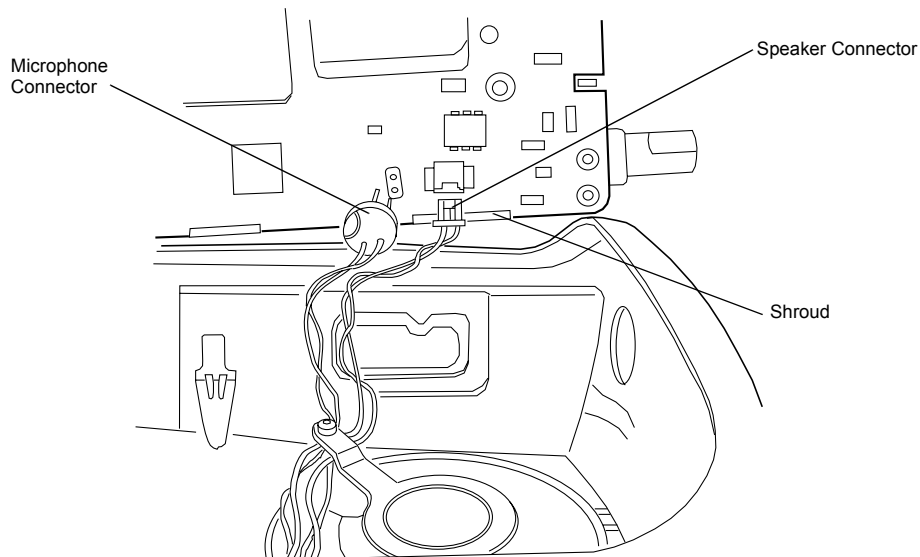

Figure 6-18. Microphone and Speaker Wires Re-assembly
- a. Connect the speaker wire assembly into the 2-pin connector on the main board and bend the wires at the board connector so the wires are positioned toward the top of the radio (Figure 6-18).
- b. Connect the microphone wire assembly into the two hole socket on the main board and bend the wires at the board connector so the wires are positioned toward the top of the radio (Figure 6-18).